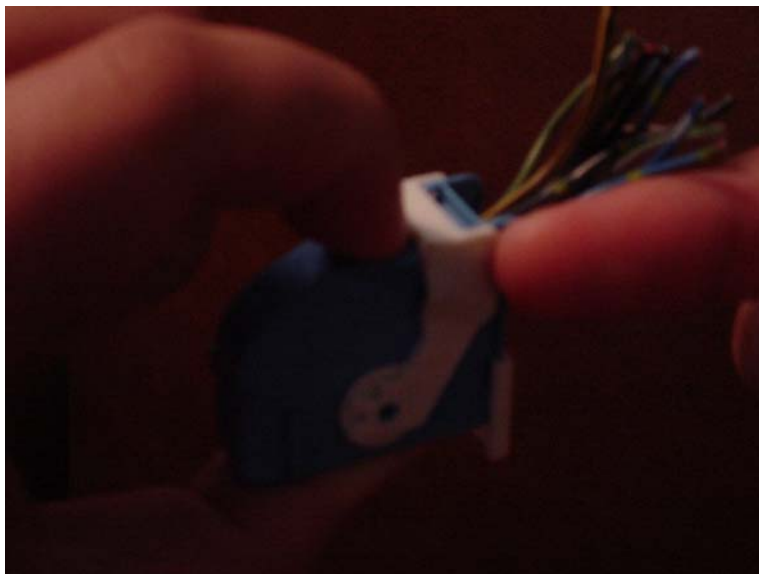

Figure 6 – Step 2 of 3, Rotate hinge back (X17 shown).
Then press down on button (left forefinger) while pushing white hinge back (right forefinger) (**Figure 6**).
- i) Remove Instrument Cluster per Bentley 620-1. It is held in place by two phillip head screws and three connectors. You may be able to access the small connector and X17 blue connector from underneath and behind the instrument cluster. Use **Figure 6** for disconnection method of all three connectors.